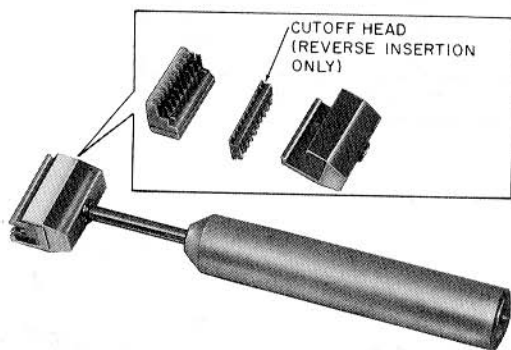

Fig. 13—788J1 Tool, Impact Insertion
2.18 The 788J1 impact tool (Fig. 13) is used to perform the same functions as the 788B2 and 788C1 tools, but it has a spring-loaded handle designed to supply the proper impact force to seat and cut off conductors or to insert the connecting blocks. The blade section of the head is easily removed for replacement or positioning for wire seating/cutoff or seating only. The 88-type connecting blocks should be placed on the index strips, by hand, before insertion, using the tool. The 788J1 tool replaces the 788H1 which is rated MD.